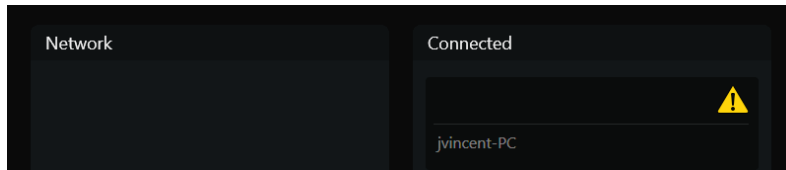

Figure 25. Workstation unreachable
**Unreachable** A connected workstation can become *unreachable* if the workstation or WControl crashed, or the workstation's Ethernet cable was disconnected (indicated with the "unreachable" icon shown in Figure 25).